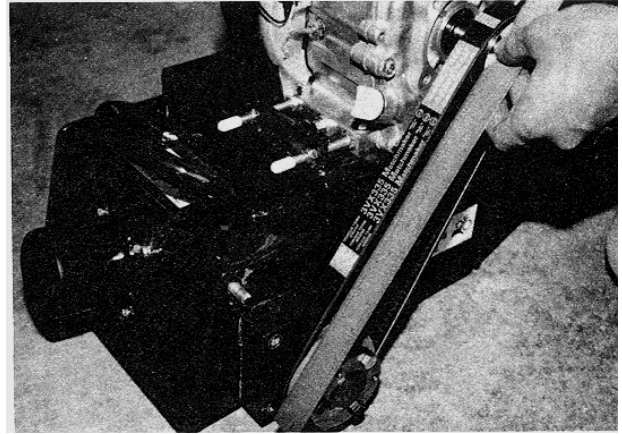

FIGURE 36
8) Belt alignment is checked with the straightedge. Place the straightedge squarely against the driveshaft pulley. Properly aligned pulleys should also place the straightedge squarely against the engine/electric motor pulley. Remove the straightedge and rotate the engine pulley 120 degrees. Recheck the alignment with the straightedge. Repeat the process until the engine/electric motor pulley has been rotated a full 360 degrees. Maximum allowable misalignment is $\pm 1/32$ inch. FIGURE 36.